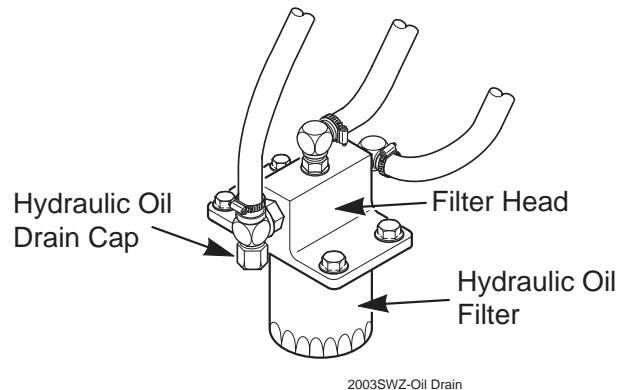

Figure 15 Hydraulic Oil Drain Cap
1. Remove the oil filter element (Figure 15) and properly discard it. Fill the new filter with clean oil and install the filter. Hand tighten only.